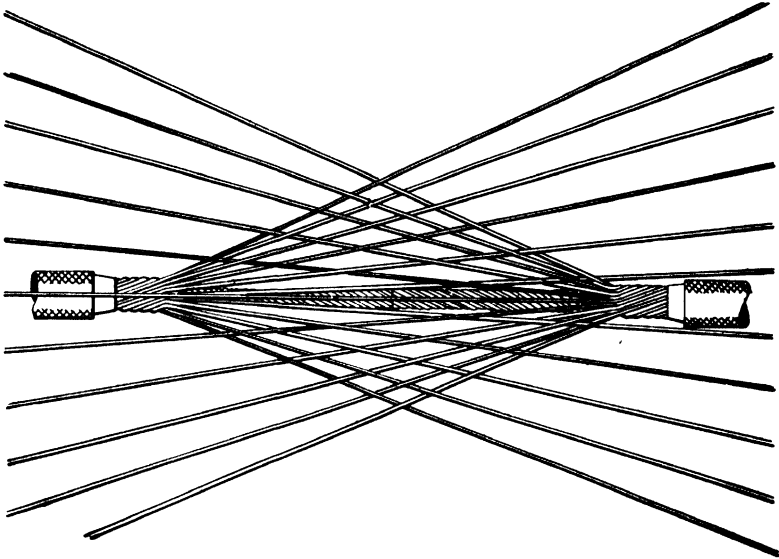

Fig. 57. Cable Splice, Alternating the Wires
**Cable Splices.** Cable splices are started as shown in Fig. 57. The outside layer of wires should be spread, pulled out straight, and thoroughly cleaned. Cut the core short and butt the ends. Then fan the strands, one side alternating with the other. The next move, which is to lay the strands parallel with the cable, is shown in Fig. 58.